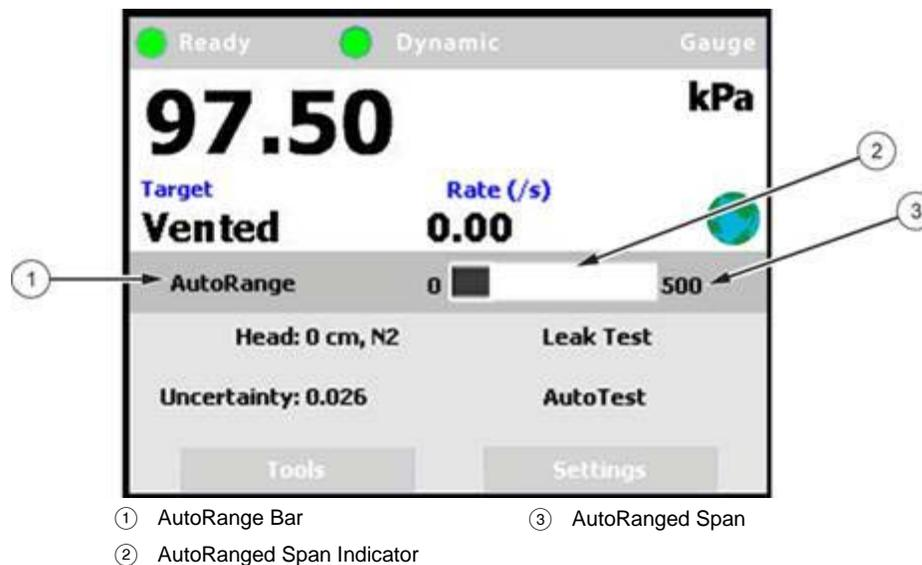

Figure 10. AutoRange Bar
- To verify or confirm the range from the Main Run Screen, use [AutoRange] from the Main Run Screen and view the Range field to view the active range (see Section 3.2.7) or view the AutoRange and active RPT spans and indicators from the AutoRanger bar on the main run screen (see Figure 10).
The AutoRange Bar in the middle of the PPC4E Main Run Screen displays the range and a graphical indicator of the measured pressure within the active AutoRanged Span (see Figure 10, showing a pressure of 97.5 kPa on a 500 kPa AutoRanged span).